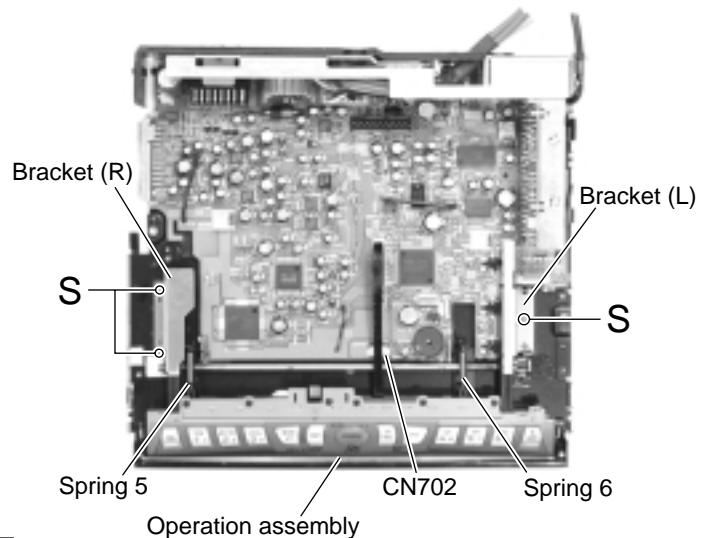

Fig.16
■ Removing the operation assembly (See Fig.16 to 19)